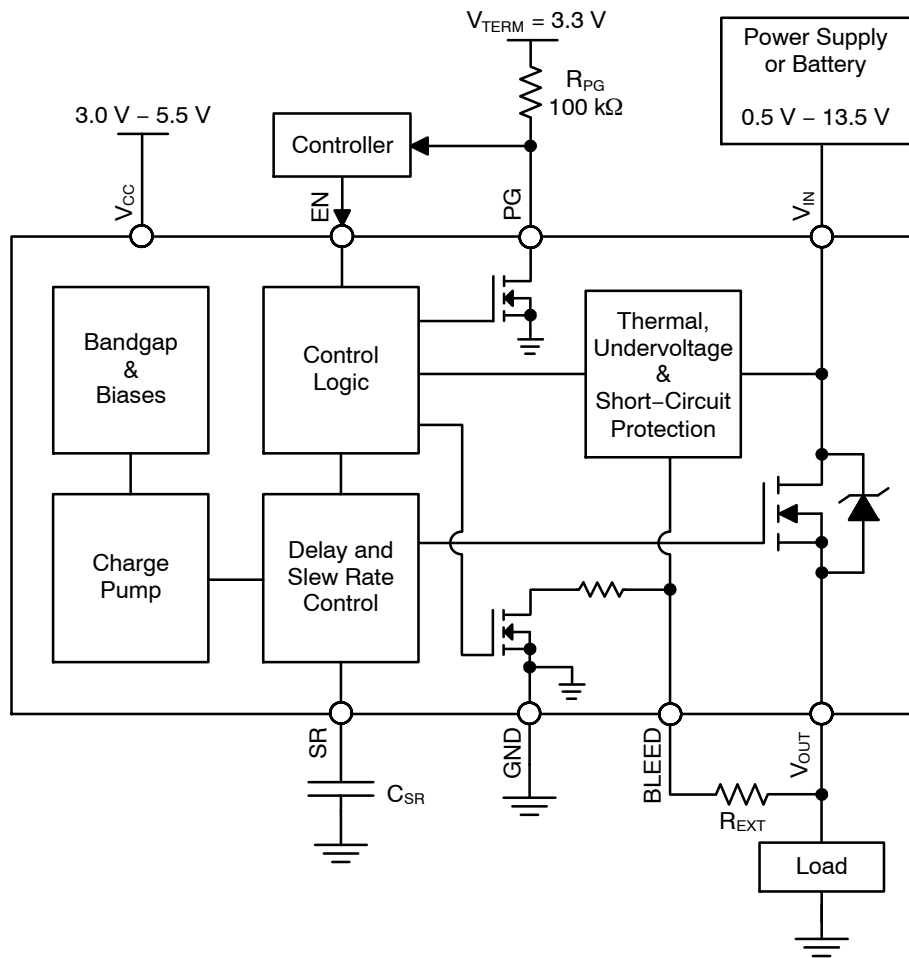
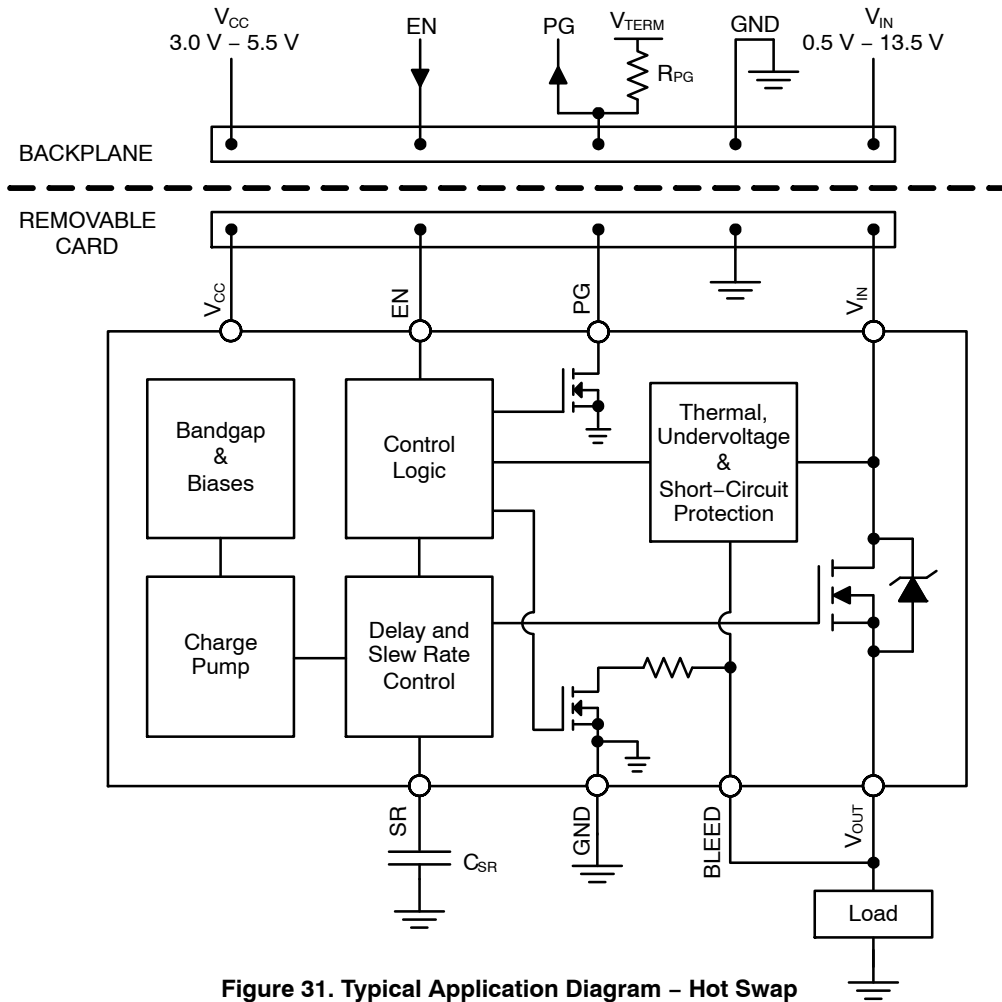

Figure 30. Typical Application Diagram – Load Switch
Figure 31. Typical Application Diagram - Hot Swap
It is required that the BLEED pin be connected to  $V_{OUT}$  either directly (as shown in Figure 31) or through an external resistor,  $R_{EXT}$  (as shown in Figure 30).  $R_{EXT}$  should not exceed 1 k $\Omega$  and can be used to increase the total bleed resistance.
The NCP45560 devices have a power good output (PG) that can be used to indicate when the gate of the MOSFET is fully charged. The PG pin is an active–high, open–drain output that requires an external pull up resistor,  $R_{PG}$ , greater than or equal to 1 k $\Omega$  to an external voltage source,  $V_{TERM}$ , compatible with input levels of other devices connected to this pin (as shown in Figures 30 and 31).
The slew rate can be decreased with an external capacitor added between the SR pin and ground (as shown in Figures 30 and 31). With an external capacitor present, the slew rate can be determined by the following equation:
Once active, the circuitry monitors the difference in the voltage on the  $V_{IN}$  pin and the voltage on the BLEED pin. In order for the  $V_{OUT}$  voltage to be monitored through the BLEED pin, it is required that the BLEED pin be connected to  $V_{OUT}$  either directly (as shown in Figure 31) or through a resistor,  $R_{EXT}$  (as shown in Figure 30), which should not exceed 1 k $\Omega$ . With the BLEED pin connected to  $V_{OUT}$ , the short–circuit protection is able to monitor the voltage drop across the MOSFET.